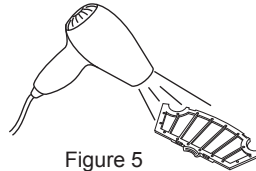

Figure 5
5. Clean the filter using a hairdryer or Dust brush. (Refer to Figure 5 and Figure 6)